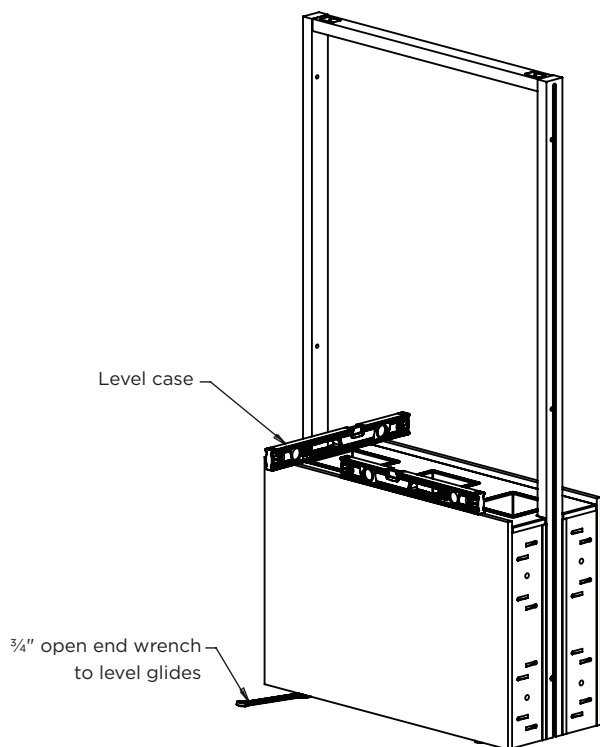

Figure 1A
1. Start with the middle unit in the ganging series. Position in the final install location and level unit with the glides. A 3/4" open end wrench can be used to adjust the glide. **(Figure 1A)**